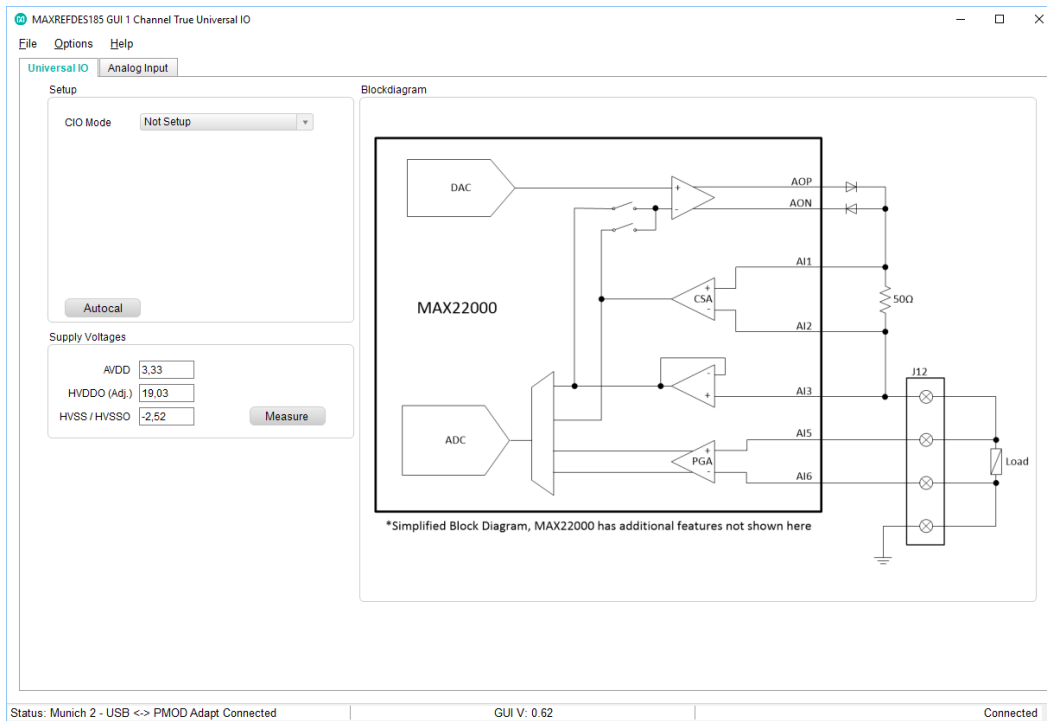

Figure 3. MAXREFDES185# GUI.
6. Open the MAXREFDES185# GUI (Figure 3).